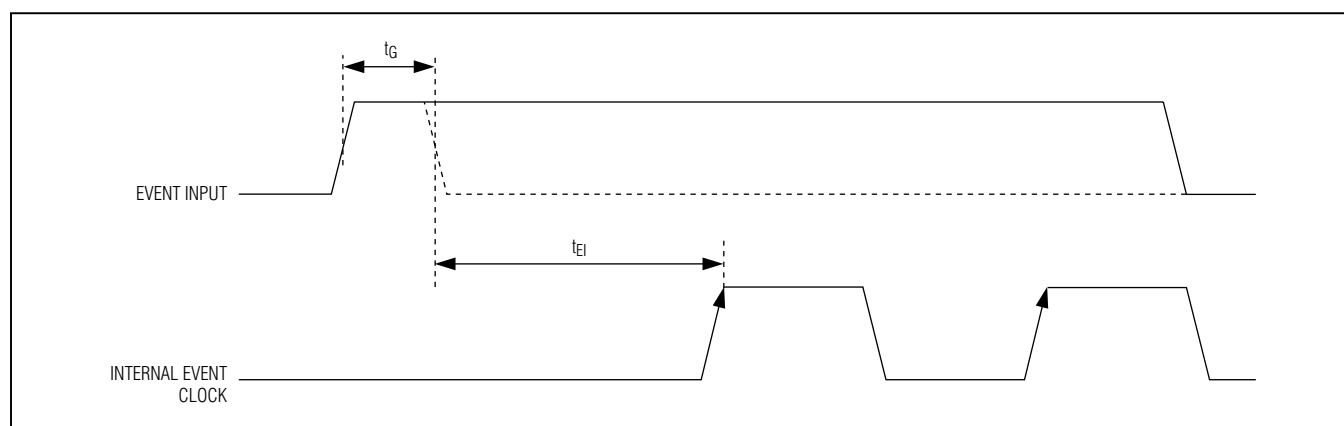

Figure 2. Event Input Timing
- 2) After the glitch filtering and  $t_{EI}$ , the ETC SRAM counter value increments. See Figure 2 for timing. An event greater than time event minimum ( $t_G$ ) but less than  $t_{EI}$  (i.e., a low-high-low transition on EVENT <  $t_{EI}$ ) increments the Event Counter SRAM value but not the ETC SRAM value.